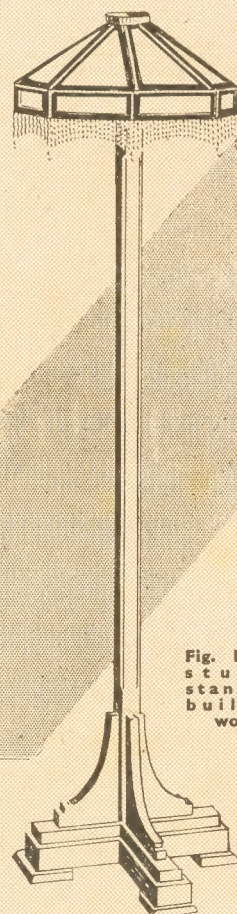

Fig. 1 — A sturdy standard built in wood
**T**HE graceful looking standard lamp shown in our illustration at Fig. 1, would be equally as useful alongside the piano as at the back of the arm chair. Such a lamp as this is excellent as an aid for reading when the main lamp in the room is not needed. It is, too, very restful for the eyes, the light being concentrated on the work in hand whether it be music or book reading.